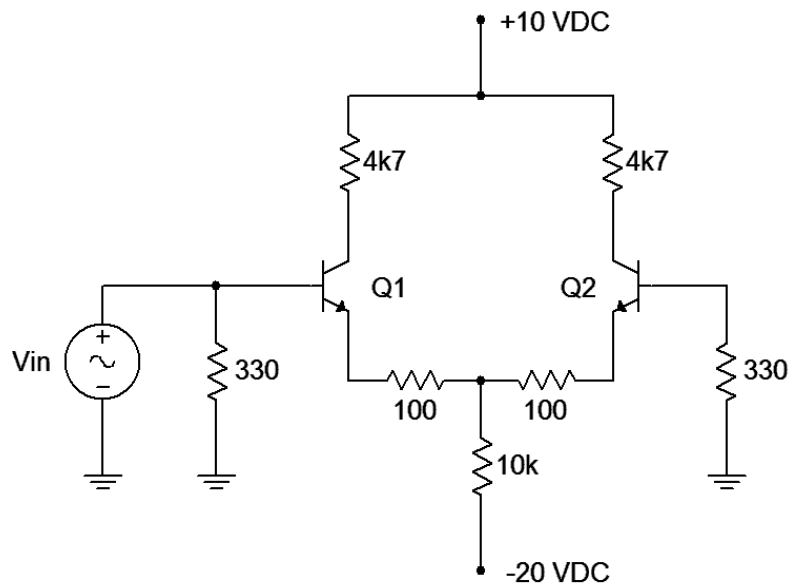
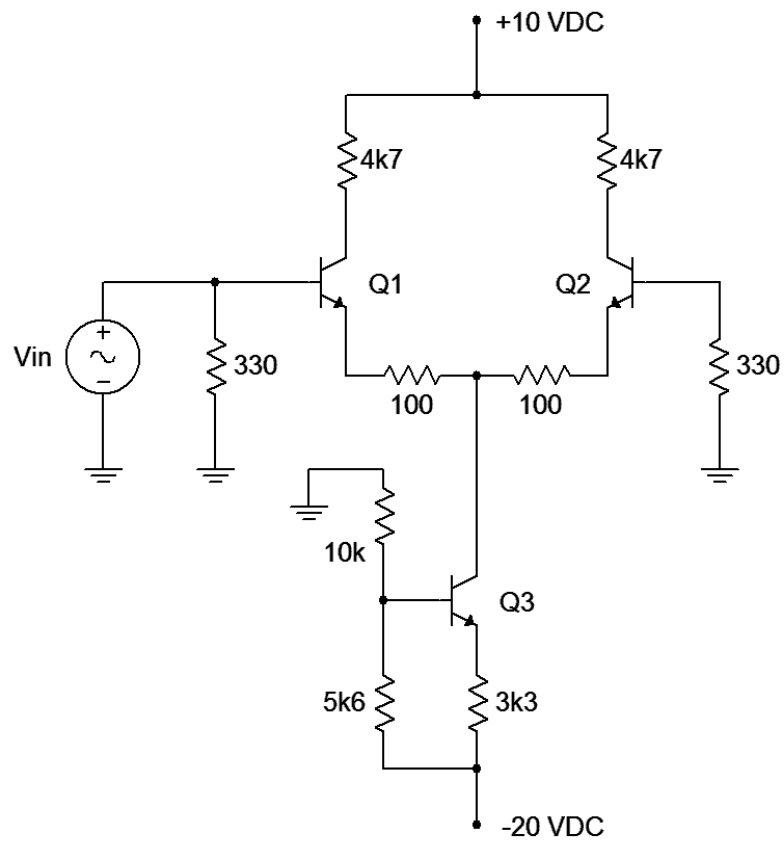

Figure 2
Figure 3
5. Calculate the differential voltage gain and collector voltages for the amplifier of Figure 2 using an input of 20 millivolts, and record them in Table 2.
6. Assemble the circuit of Figure 2.
12. Assemble the circuit of Figure 3. This circuit uses an improved tail current source that exhibits much higher internal impedance than the circuit of Figure 2. This should yield a decrease in common mode gain which, in turn, should yield an improved CMRR. Note that the new circuit sets up virtually the
14. Continuing with the amplifier of Figure 3, turn the signal down to 0. Estimate and then measure the results for each individual error presented in Table 5.
15. Build the amplifier of Figure 2 in a simulator and run a Transient Analysis echoing steps 5 through 8. Compare the results to the data found in Table 2.